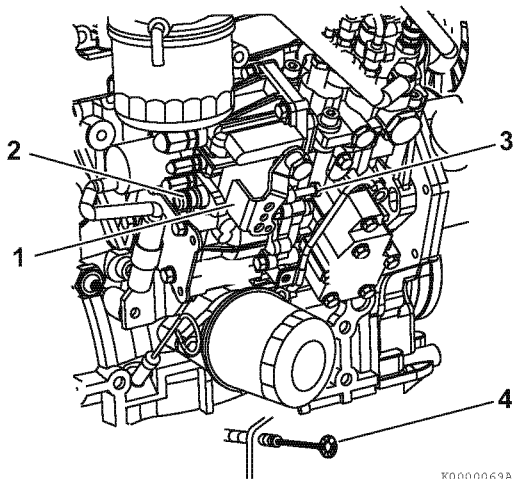

Figure 5-8
1. Check that the governor lever (1, **Figure 5-8**) makes uniform contact with the high idle (2, **Figure 5-8**) and low idle (3, **Figure 5-8**) speed limit screws when the engine speed control is in the high idle speed or low idle speed position.
3. In some engine speed control applications, loosen the throttle cable lock nut (4, **Figure 5-8**) and adjust the cable so the governor lever makes proper contact with the high/low idle speed limit screw.